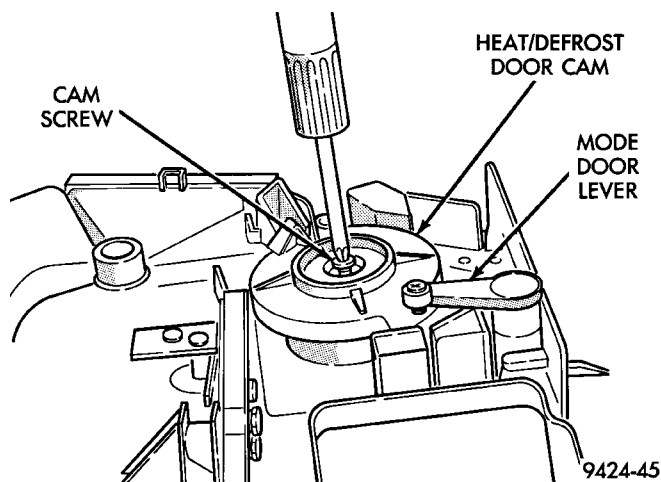

Fig. 52 Cam Screw Removal
(8) Remove Heat/Defrost door cam screw (Fig. 52).